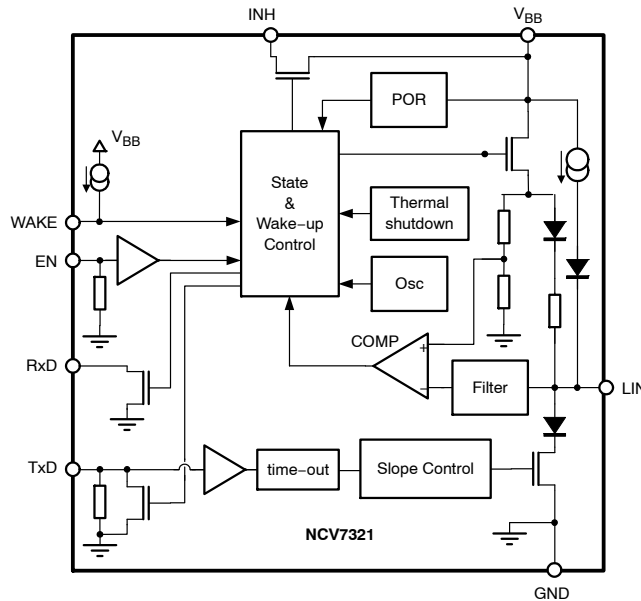

Figure 1. Block Diagram
10. The voltage drop in Normal mode between LIN and  $V_{BB}$  pin is the sum of the diode drop and the drop at serial pull-up resistor. The drop at the switch is negligible. See Figure 1.